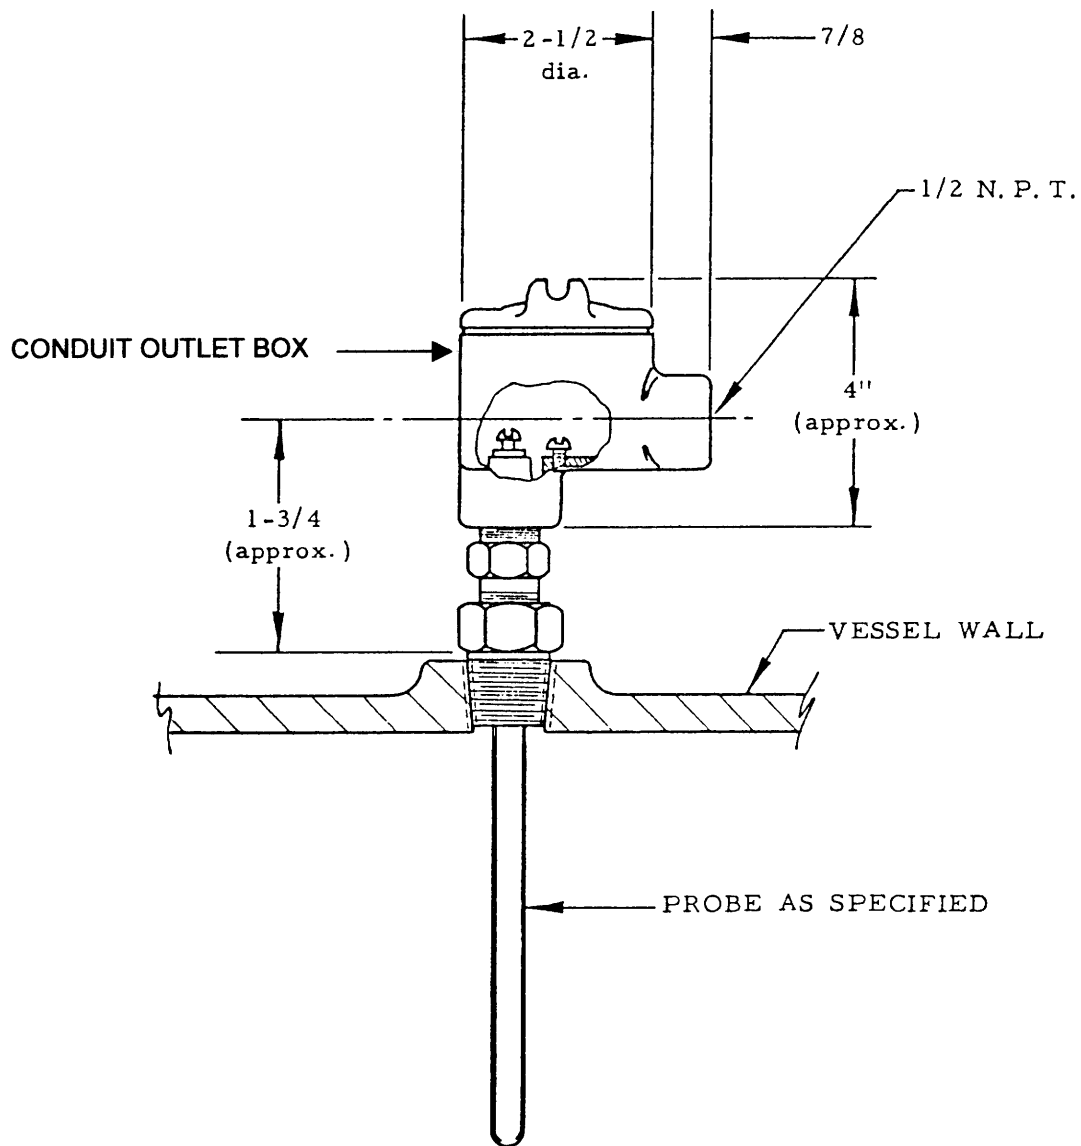

Figure 1. Probe Mounting and Conduit Outlet Box Dimensions.
3.2 PROBE MOUNTING (See Figure 1)